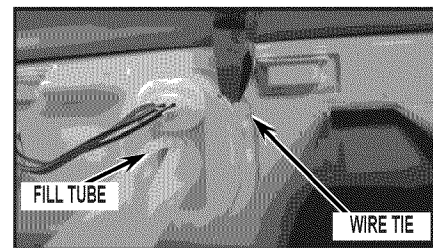

FIGURE 9
- Cut and discard wire tie that is holding fill tube in place. See *Figure 9*.